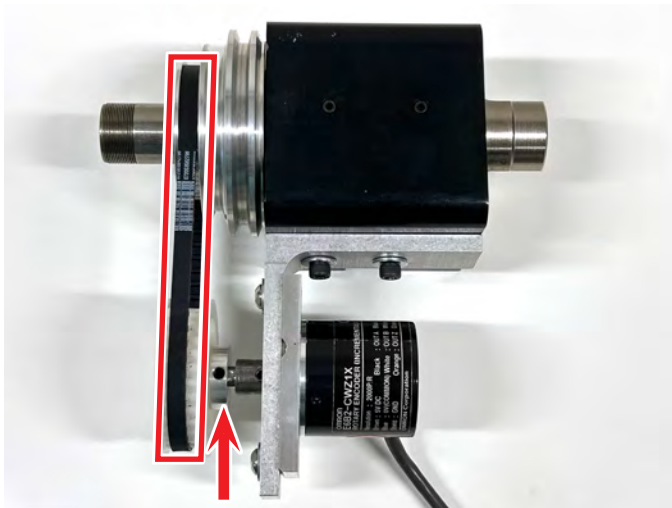

FIGURE 31
3. For the 3C headstock (and when using the 2-speed pulley on our original Morse #1 headstock) you will need to invert the 30T cog pulley (P/N94005) such that the boss with the set screw is on the inside facing the encoder. This will allow the cog pulley to extend farther out so it aligns with the cog pulley on the main spindle pulley (see Figure 31).